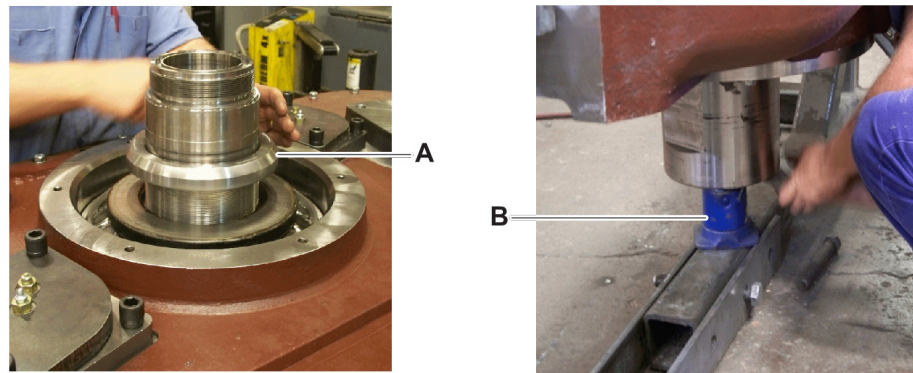

Figure 1
1. Install the adjusting nut (Figure 1, item A) on the spindle and use the spindle rotation tool attached to a ratchet to tighten the adjust nut so that it firmly contacts the surface of the upper spindle bearing cone.